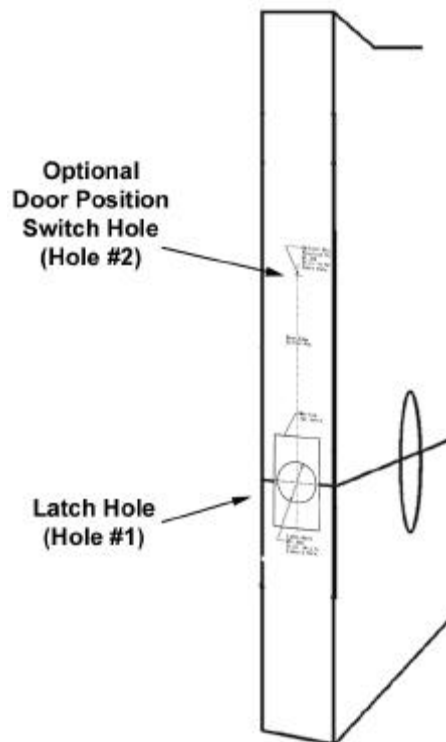
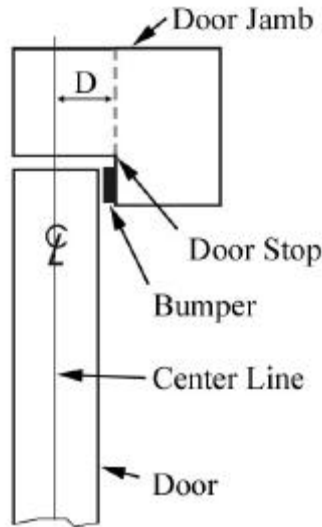
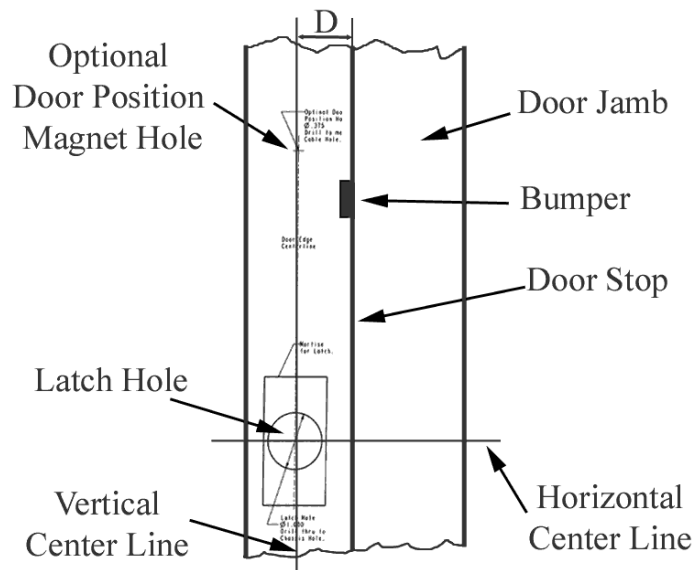

Figure 2-3 – Template RSTP21 on Metal Door Edge
Figure 2-4 – Locating Center Line on Doorjamb (top view)
Figure 2-5 – Template, RSTP21, on Doorjamb (side view)
- 2.4.2.1 Skip this section if the Latch Hole (Hole #1) is already drilled and the Optional Door Position Switch (Hole #2) is not being installed (Figure 2-3).
- 2.4.2.3 Align Template, RSTP21, on the door edge so that the center of the Latch Hole is at the intersection of the vertical center line and horizontal line drawn in Section 2.4.2.2 (Figure 2-3).
- 2.4.2.5 If the Latch Hole (Hole #1) does not exist, center punch its center point (Figure 2-3).
- 2.4.2.6 If the Optional Door Position Switch (Hole #2) is to be installed, center punch the correct center point for the size magnet to be installed (Figure 2-3).
- 2.4.3.1 If the strike is not mortised or if a door position switch is being used, mark a vertical line on the strike side of the doorjamb, one half the thickness of the door plus the thickness of any bumpers on the jamb away from the door stop of the doorjamb ($D = \frac{1}{2}$ door thickness + bumper thickness, Figure 2-4 & Figure 2-5). The vertical line must be in line with the Center Line of the door when the door is closed.
- 2.4.3.2 Mark a horizontal center line (Figure 2-5) on the door jamb that lines up with the horizontal center line on the door that intersects the center of the Chassis Hole on the door (Hole #2 in Figure 2-3).
- 2.4.3.3 Place Template, RSTP11, with the center of the Latch Hole over this 38" intersect. Align the center lines on the template with the center lines drawn on the doorjamb and tape it in place (Figure 2-5).
- 2.4.3.5 If the Optional Door Position Switch is being installed then center punch the Optional Door Position Magnet Hole (Figure 2-5).